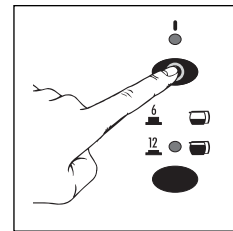

fig. 10
- Press the "ON/OFF" switch (Fig. 10). The ON pilot light above the switch will indicate that the coffee maker is in operation.